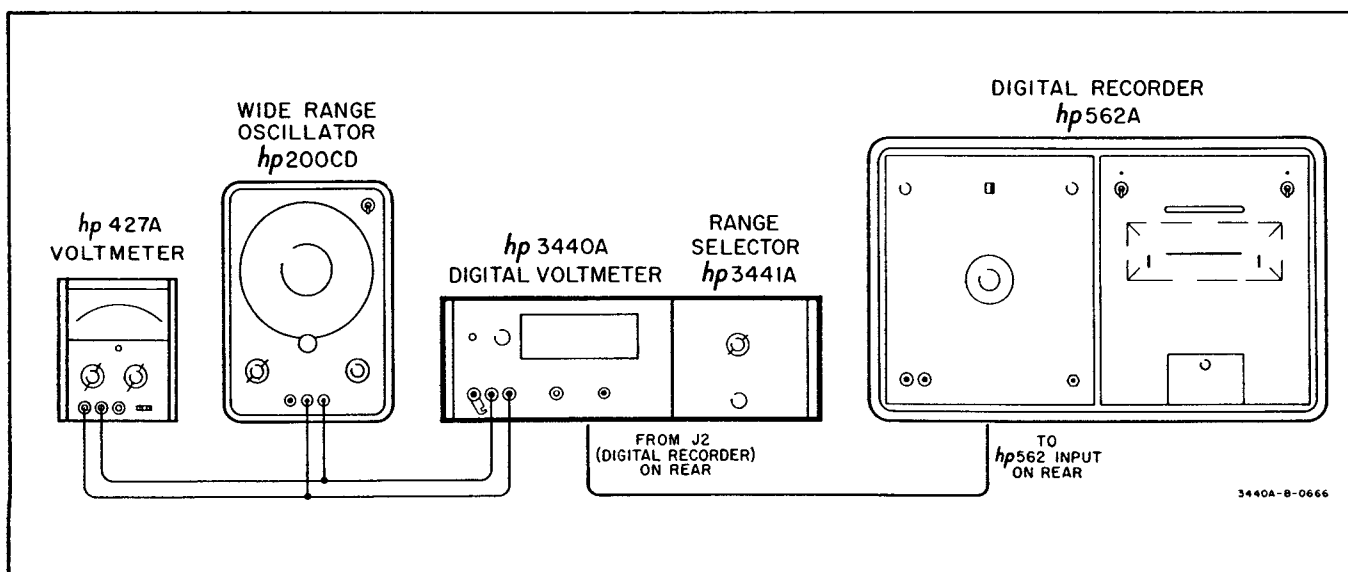

Figure 5-7. Input Filter AC Rejection Check
- a. Connect the 3440A, a test oscillator, an rms voltmeter and the digital printer as shown in Figure 5-7.